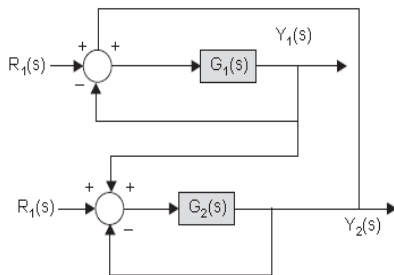

Fig. P2.12
18. The block diagram of a feedback control system is shown in Fig. P2.12.